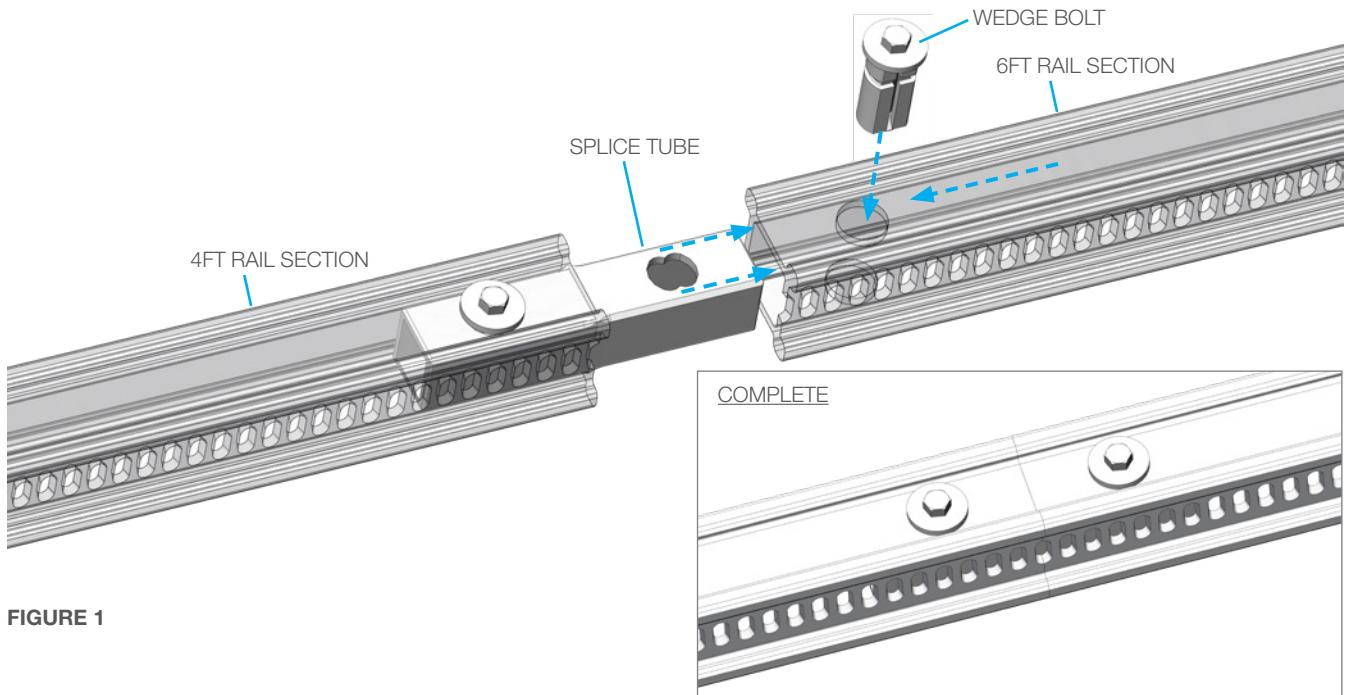

FIGURE 1
- The Direct Mount Accessory Kits come with two **Horizontal Rail Assemblies**. The Snout Mount Kits come with one. Insert the Splice tube into one rail section lining up the holes. Align the flat side of the Wedge Bolt parallel to the slots in the Rail. Insert the Wedge Bolt all the way through the Rail Section and Splice Tube, and tighten with a 3/8" wrench. Align the slotted sides of the 4FT and 6FT rail sections and slide the remaining rail onto the Splice Tube. Insert the Wedge Bolt all the way through the Rail Section and Splice Tube, and tighten with a 3/8" wrench. Repeat the process if there is a second **Horizontal Rail Assembly**. (**Figure 1**)